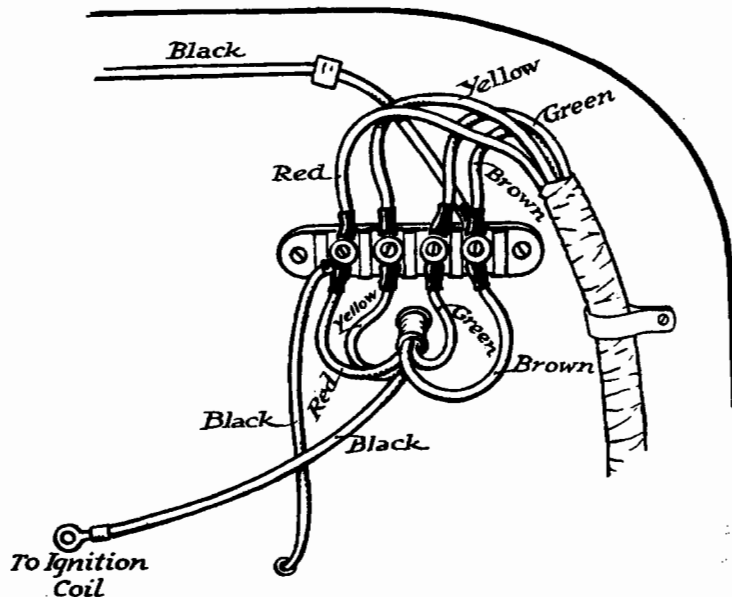

FIG. 12
1. Five inches from left-hand edge of dash and six inches down from the top, drill a $\frac{5}{8}$ -inch hole (E).
2. Six inches to the right of the center line and $2\frac{1}{2}$ inches down from the top, drill a $\frac{1}{2}$ -inch hole (B).
3. Four inches from the right-hand edge of the dash and six inches down, drill a $\frac{3}{8}$ -inch hole at an angle of 45 degrees. Drill this hole from the engine side of dash, pointing drill upward (A).
4. Three inches from the left-hand edge of the dash and $4\frac{1}{2}$ inches down, place the connector block, fastening it with the two oval-headed wood screws (C).
5. Tack to the dash the cable already attached to connector block as shown in Fig. 12.
6. Take off Ford transformer (D).